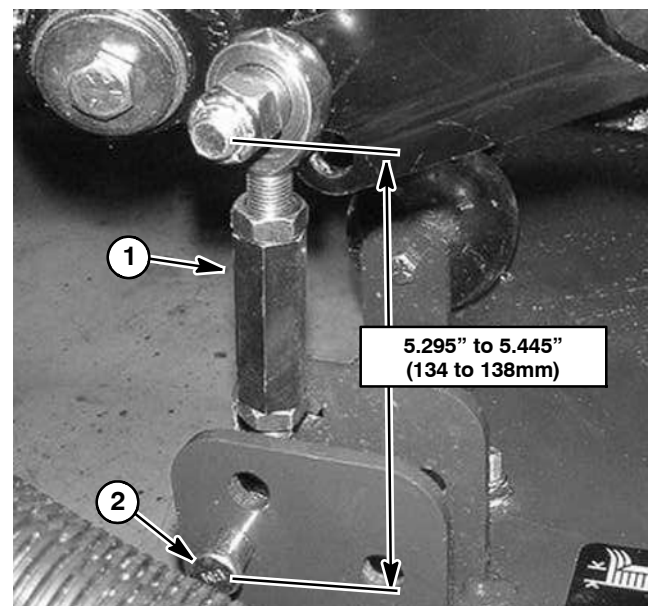

Figure 8
IMPORTANT: Do not change the length of the damper link (Fig. 8).
3. Remove hairpin and clevis pin that secure the damper link to the rear of the cutting deck (Fig. 8).
5. Install clevis pin and hairpin that secure the damper link to the rear of the cutting deck (Fig. 8).